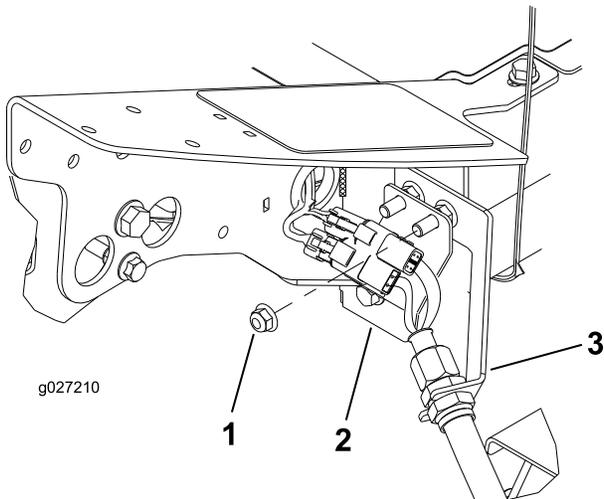

Figure 12
1. On the front left corner of the frame (#4 cutting unit location), remove the extra flange head nut on the bolt securing the bulkhead bracket to the machine (Figure 12).
3. Insert the connector plate onto the bulkhead mounting bolts with the connectors positioned as shown in Figure 12.